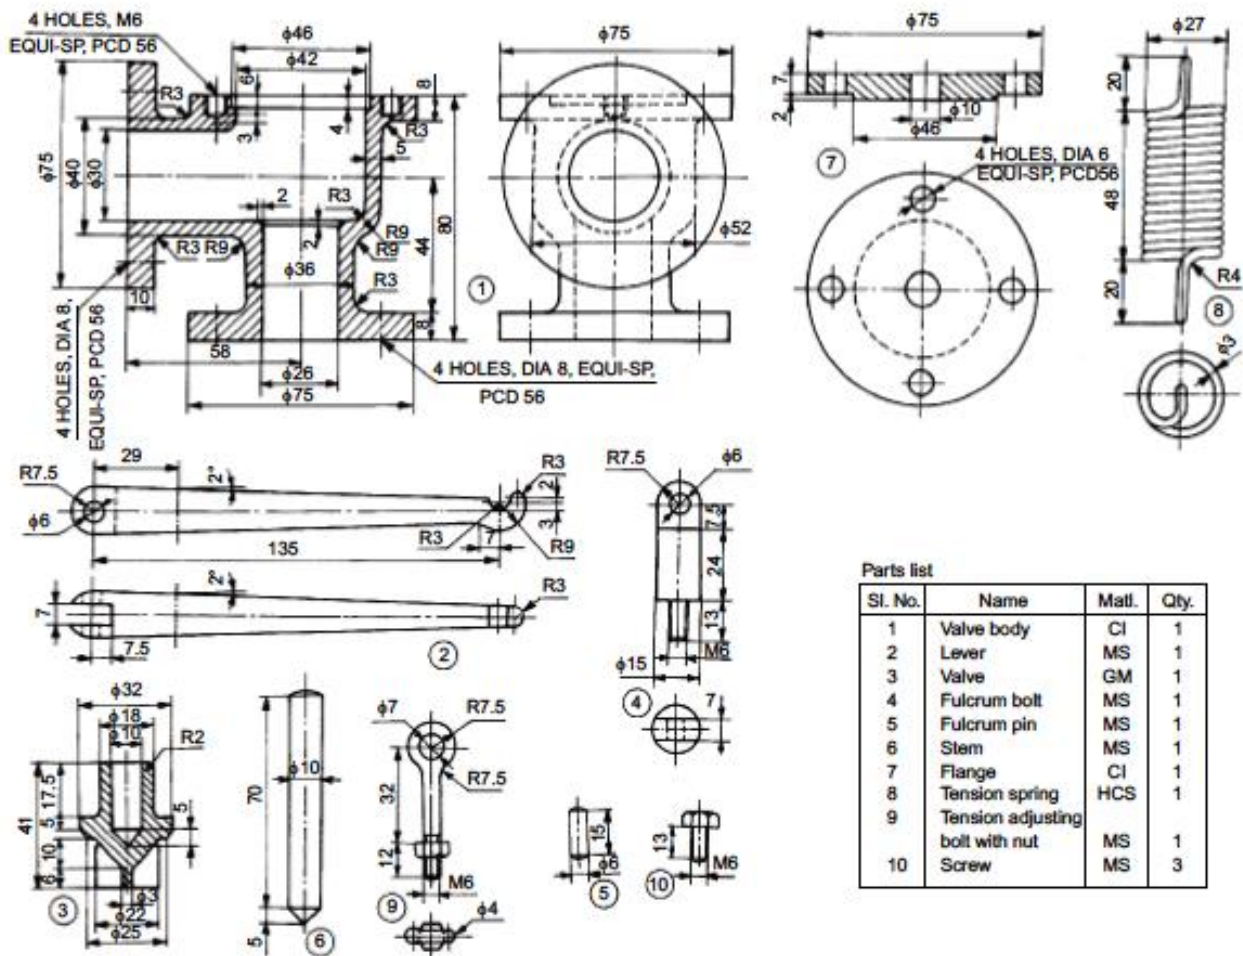

Fig.4
4. Assemble the parts of a spring loaded relief valve, shown in Fig. 4 and draw the following views: (i) Sectional view from the front, and (ii) View from the right.